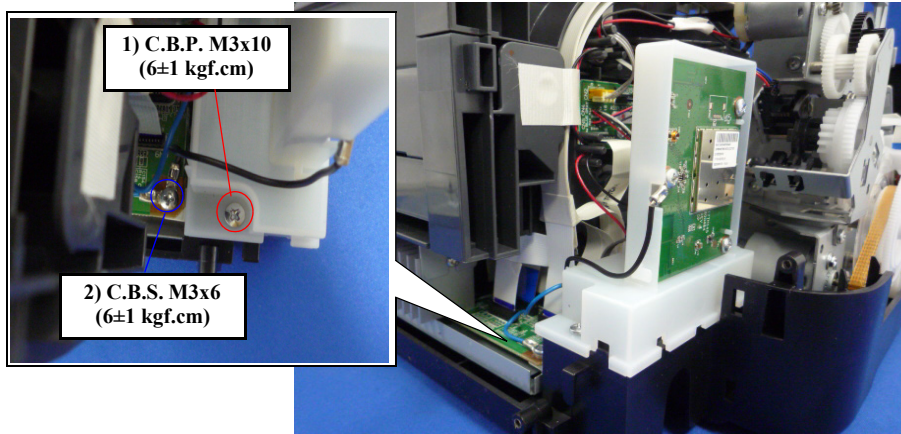

Figure 8-25. Screws that secure the Wireless LAN Board .
2. Remove the C.B.P. M3×10 screw and C.B.S M3×6 screw secure the Wireless LAN Board Assy. (See Figure 8-25)